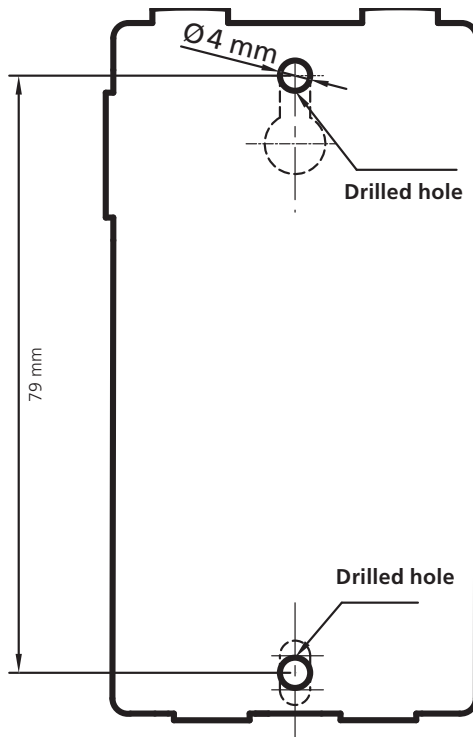

Fig. 2
- Mark the positions of the two dowel holes with a pen (boring template, fig. 2).